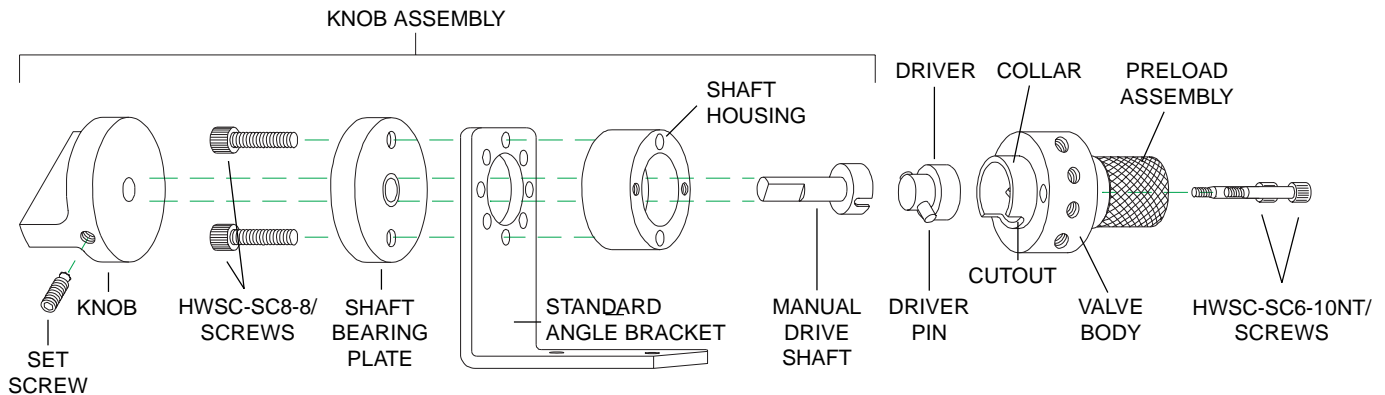

Figure 2: Exploded view of 10 port valve
- Slide the screws through the holes in the standard angle bracket shown in **Figure 2** or as desired for your installation.